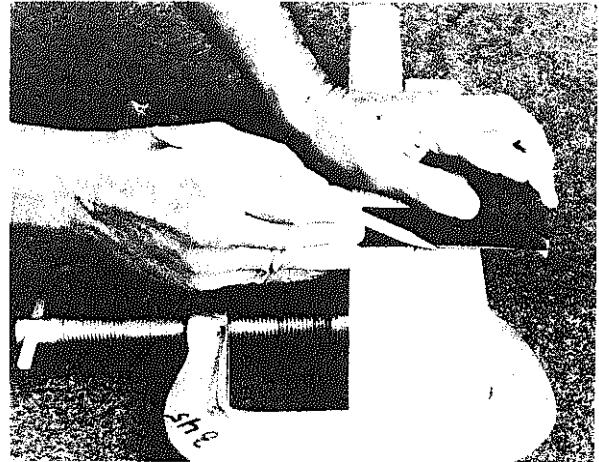

Fig. 4-27 Laying out similar locations of lines on duplicate parts
4. To lay out similar locations of lines on duplicate parts, hold the pieces together as one unit while marking. See figure 4-27.